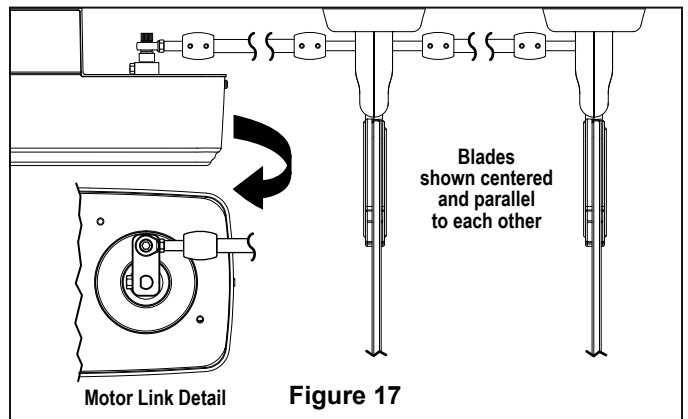

Figure 17
1. Turn motor so that motor link is perpendicular to connecting rod (see Motor Link Detail, **Figure 17**).